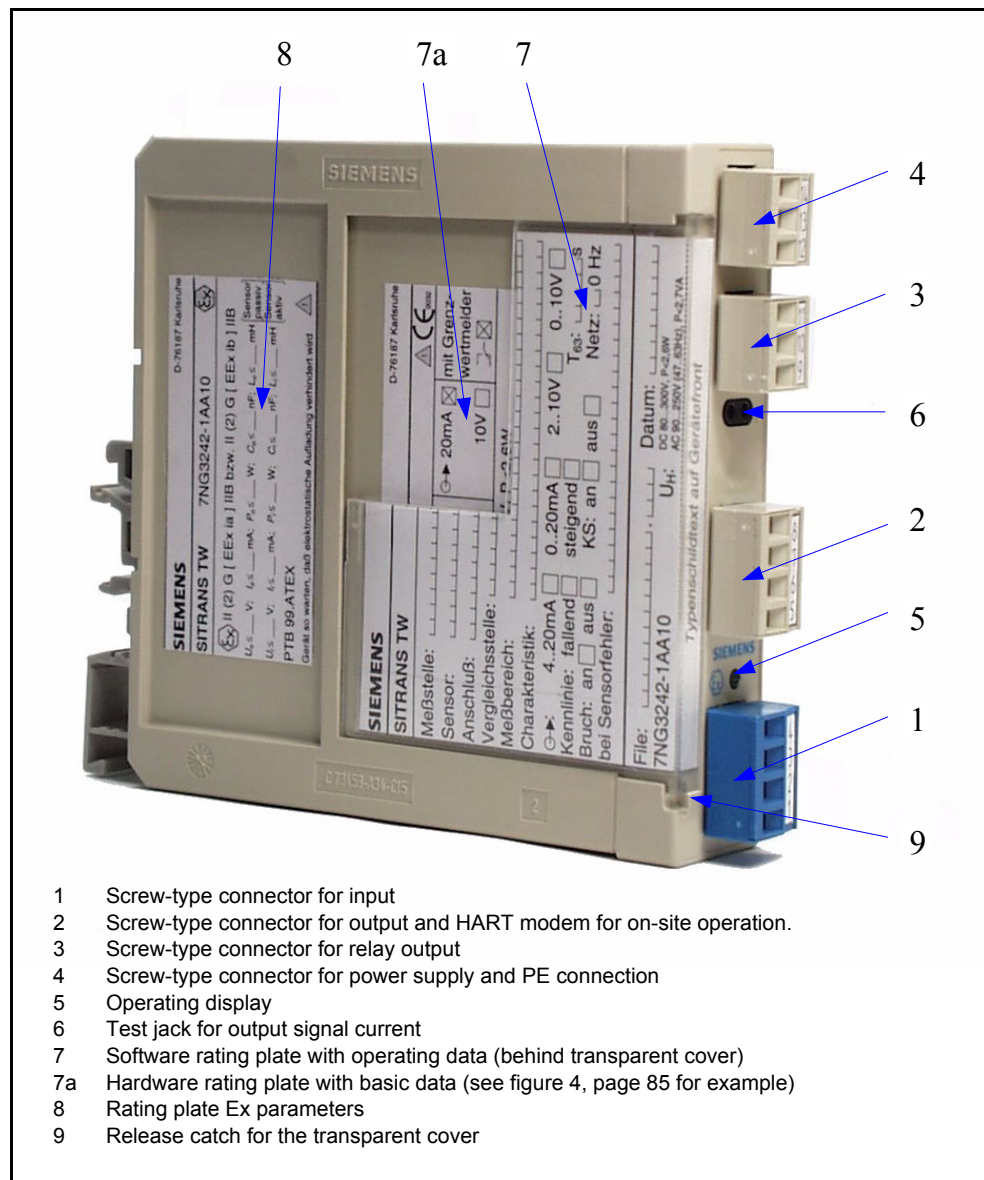
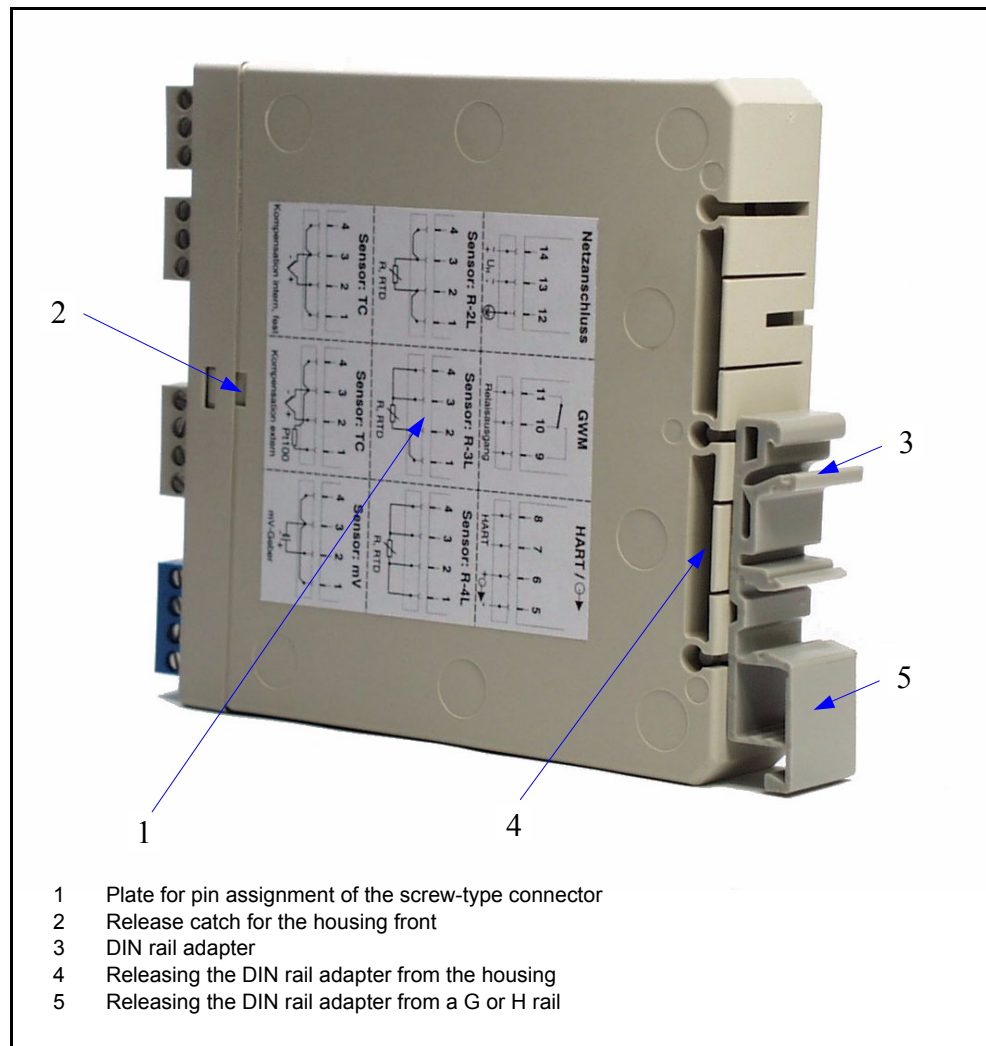

Figure 2 Front view of SITRANS TW, 4-wire mounting rail device
Figure 3 Rear view of SITRANS TW, 4-wire mounting rail device transmitter
The design of the SITRANS TW 4-wire mounting rail device is shown in figure 2 and figure 3, page 84.
The green operating indicator (5, figure 2, page 83) signals the following operating states:
- The test socket (6, figure 2, page 83) is used to check the 0/4 ... 20 mA current with a measuring instrument at current output. The connection is made by 2 mm test jack plugs. The voltage drop at the ammeter may not exceed 0.3V at 23 mA output current.
- If the analog output is in the current output 0 ... 20 mA mode or current output 0 ... 10V mode, the test jack (6, figure 2, page 83) must be bridged at 0 mA or at 0V for correct HART communication. A suitable short-circuit connector can be ordered as an accessory as follows:
Switch off the power supply. Pull out the screw-type connector (1-4, figure 2, page 83). Release the DINrail adapter (3, figure 3, page 84) by pressing the locking catch (4, figure 3, page 84) and pushing to the side. Pull out the transparent cover for the type plate with the operating data as described in chapter 3.5.2, page 92. Release the front of the housing (2, figure 3, page 84), pull off the front and pull out the module.
Lift the transparent cover for the rating plate with the operating data (7, figure 2, page 83) at the position (9, figure 2) with a small screwdriver towards the front until it snaps out on the opposite side and pull it out. The inserted rating plate is exchangeable. There is a label carrying the basic data of the transmitter underneath this rating plate on the housing. Fold a new operating data rating plate in the appropriate marked place and then insert it in the grooves in the transparent cover.
After pushing the transparent cover back in, it must snap in when pressing at position (9, figure 2) and the opposite side.